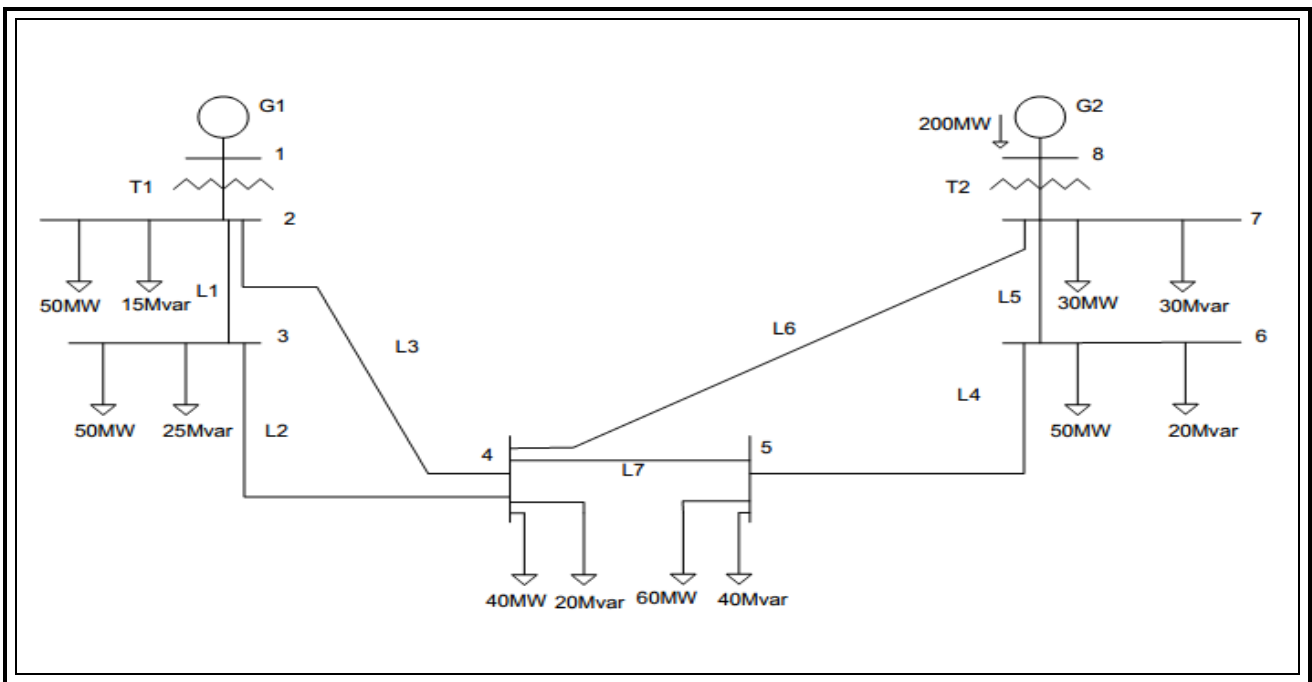

Fig.1: 8-bus Power System
Fig.1 below shows an 8-bus power system, parameters and other system modelling information (line impedances, load values ... etc.) are given below.
4. Reduce the load at bus 3 to 50 MW and 25 Mvar (in order to return the original case as shown in Fig. 1), then add a switched shunt capacitor bank to bus 5 such that per unit voltage for this bus become 1 pu, write this Mvar value, calculate the value of the capacitor required to generate this power, repeat step (2-a and 2-b) and discuss the differences, repeat this step with another two values of Mvar, one of them less than previous value and the other greater than it and discuss the results.